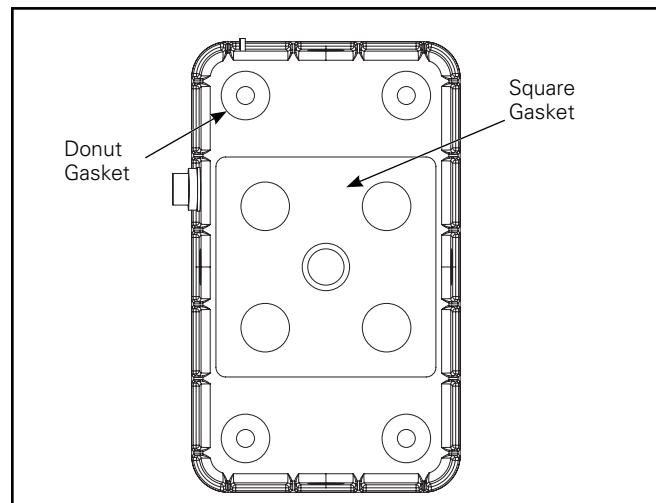

Figure 7.
- Peel the backing from each of the four donut gaskets and apply them to the back side of the cast housing at each of the four mounting holes (gasket has adhesive on one side). Use the square gasket to seal cast housing to J-Box (see Fig. 7).